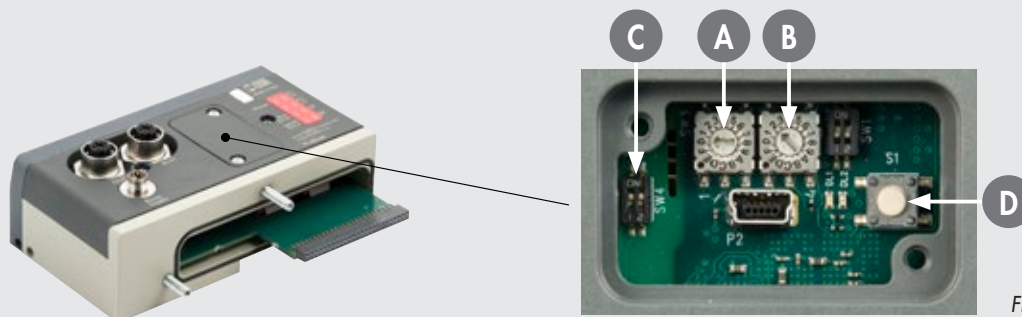

Figure 1
The last node of each branch of the Profibus DP network must be completed with the appropriate resistances in order to prevent any reflection errors during Master-Slave communication, which can cause malfunctions. The insertion can be made by setting both switches (C) to ON (Figure 1).